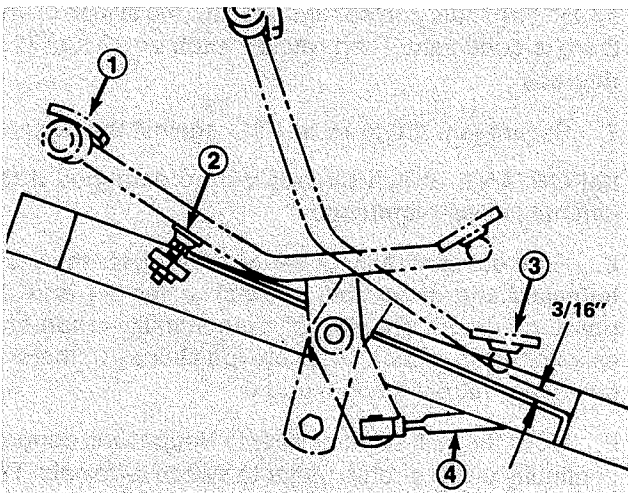

Figure 44
ADJUSTING TRACTION PEDAL (Fig. 44)
2. Check distance between bottom of pedal and footrest as shown in Fig. 44. Distance should be approximately $3/16$ ". If distance is greater or less than $3/16$ " dimension, an adjustment to the traction control rod is required.